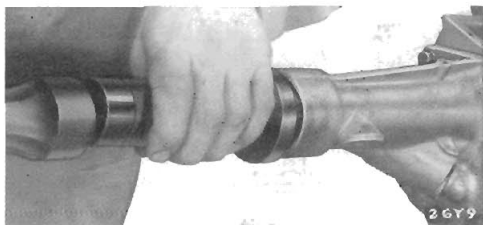

Fig. 47.
Drive the ball race (67) into its bore in the rear end of the housing, followed by the oil seal (68) with the sealing lip facing forward (see Fig. 47).